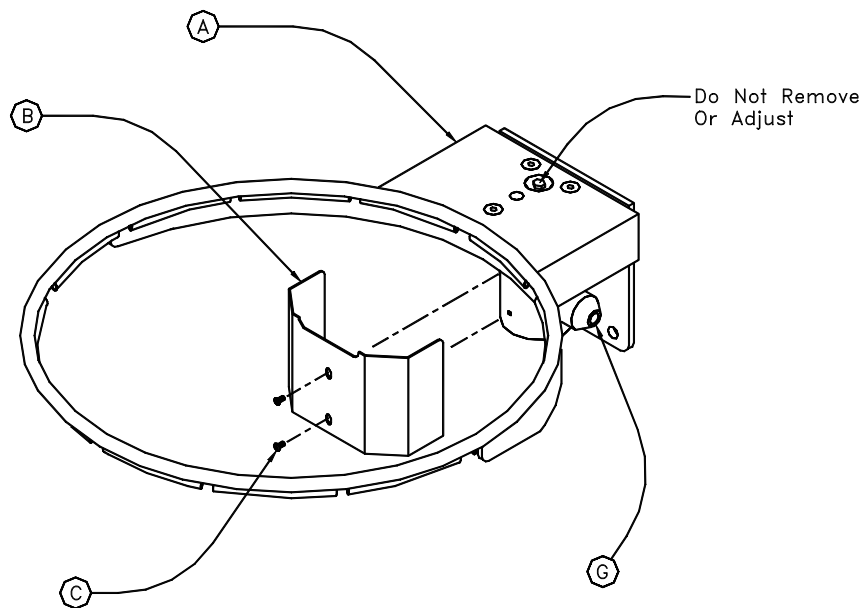

Figure 1
1. Remove the two 8-32 Machine Screws (C) and remove Cover Plate (B). Mount the 180 Degree Goal (A) to backboard with the hardware provided in the Goal Hardware Bag (H). Make sure the goal is level then tighten hardware. See Figure 1.